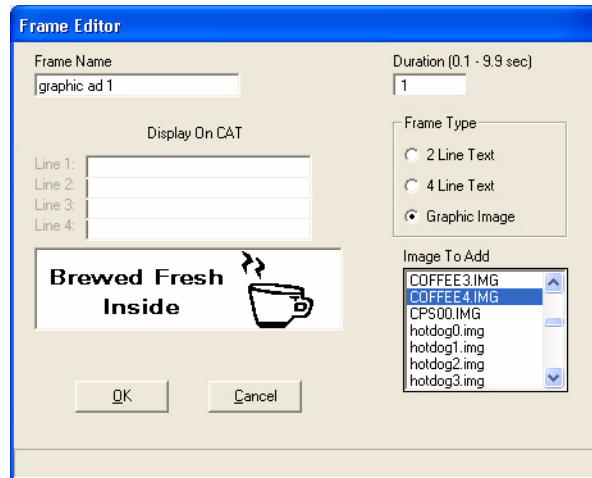

Figure 7-43 Frame Editor Window
- * **Add** - Allows you to create a new frame by opening the Frame Editor window. See Figure 7-43 below.
- * **Modify** - Allows you to make changes in the highlighted frame through the Frame Editor window. See Figure 7-43.